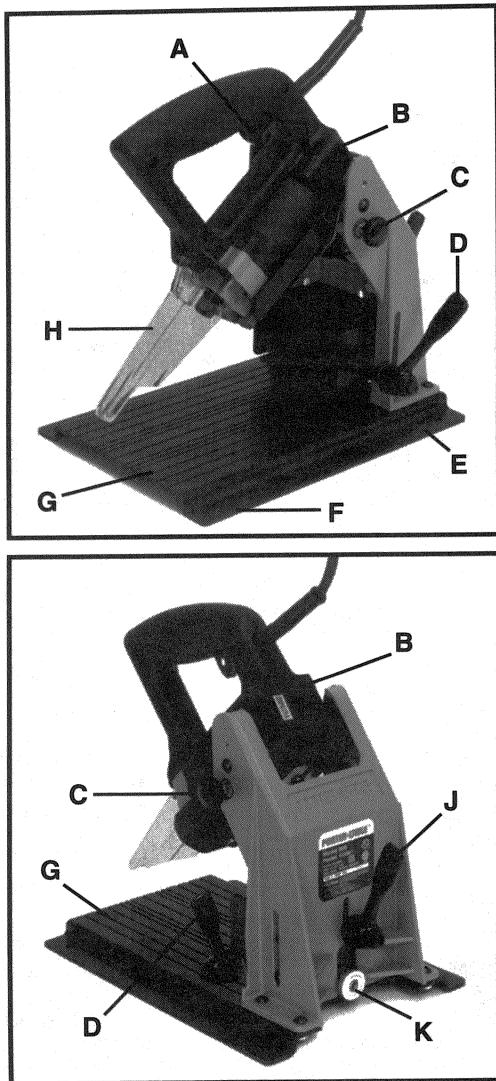

Fig. 1
2. Push downward on the handle while turning the transport lock knob (see Fig. 1) counterclockwise FOUR TO SIX FULL TURNS to release lock.
3. Pivot motor unit up and down while checking for free movement. When released, the motor unit should tilt to approximately 45° as shown in Fig. 1.
4. Engage the transport lock in the UP position before making adjustments or changing bits. TO ENGAGE: Tilt the motor unit into the UP position and hold while turning the lock knob clockwise until tight. TO RELEASE: Lift up on the motor unit and hold while turning transport lock knob (see Fig. 1) counterclockwise FOUR TO SIX FULL TURNS to release lock. Slowly lower motor and check for free movement.
1. Squeeze the trigger switch (see Fig. 1) to start motor. Release trigger switch to stop motor.